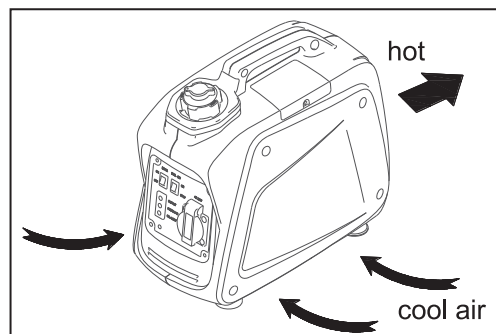

Fig. 1
3) ENGINE AND MUFFLER MAY BE HOT (See Fig. 1)